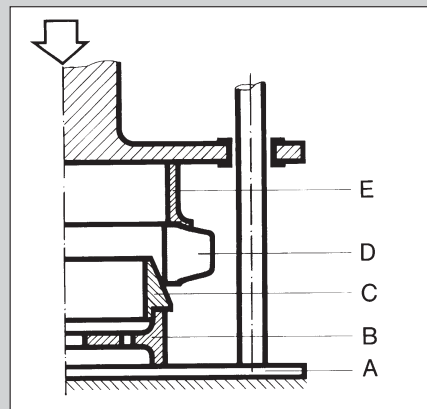

Fig. 8
The press-fit ring is shown in Fig. 8. The press-fit ring ideally has a collar for hubs of greater than 250 mm Ø. Press blocks must not be used instead of a press-fit ring.
**Press-Fit Procedure (Fig. 8)**
- Check hub (B) for correct size, degrease it and place it on press plate (A).
- Center the expansion ring (C) on the hub. If high quantities are to be fitted, it is recommended to center the expansion ring on the hub.
- Apply lubricant solution evenly to sliding surfaces of hubs, expansion ring and friction ring (D).
- Place press-fit ring (E) centrally on friction ring. Check that press guides are plane-parallel.